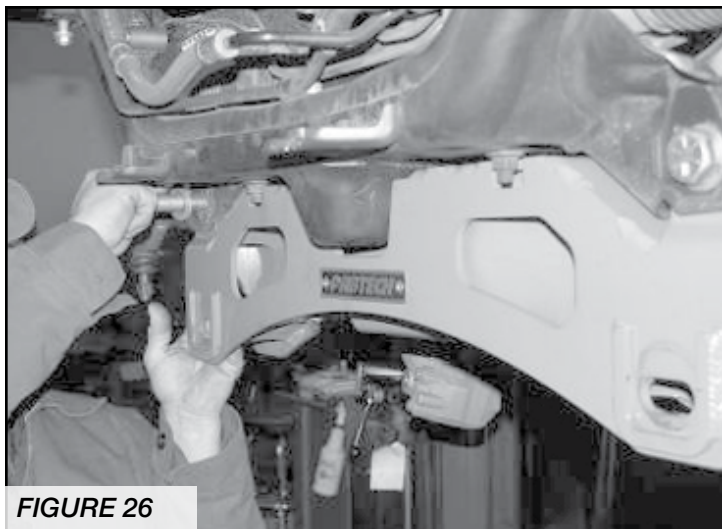

FIGURE 26
19. Locate the Fabtech front crossmember FT70051 06-09 models FT70162 10-12 models, with the supplied $\frac{3}{4}$ " x 4 1/2" bolts, nuts, and washers, attach the crossmember to the factory control arm pockets, leave loose at this time. **SEE FIGURE 26**